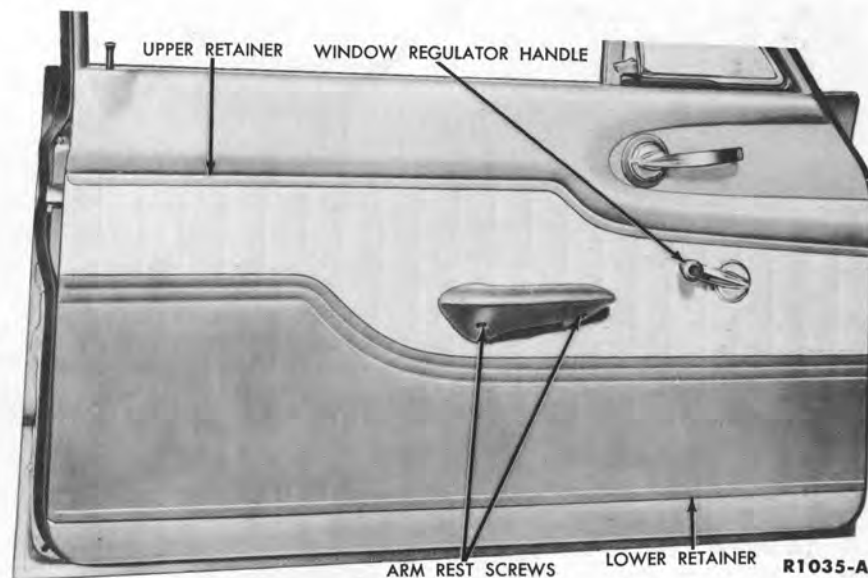

FIG. 9—Typical Door Trim
2. Remove any screws retaining the trim panel to the inner panel, such as the arm rest retaining screws (Fig. 9). To reveal the quarter panel arm rest forward retaining screw, slide the ash tray assembly forward.